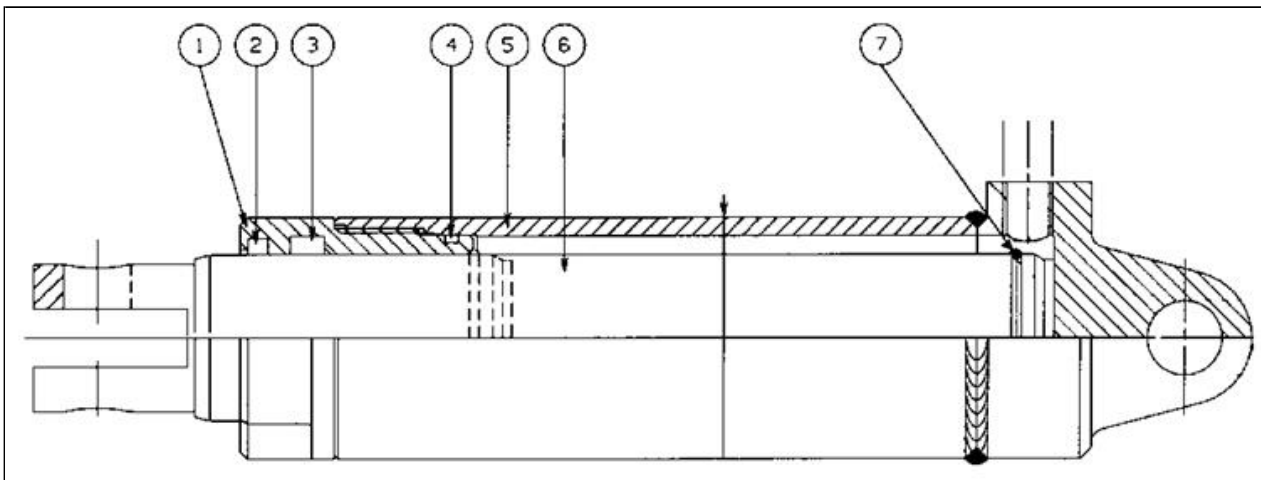

Fig.5
Proceed as described below if the power lift seals parts **2** and **3** of (fig. 5) need replacing:
- unscrew the cylinder head (part **1**) of (fig. 5);